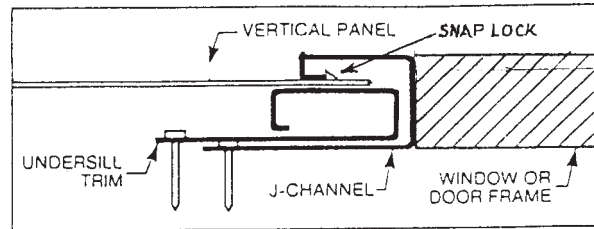

FIG. 30 Installation With Panel Cut on Flat Surface
10.8.2 If the panel is cut on the flat surface, install undersill trim, or a 7/16-in. (11.1-mm) thick furring strip, into the J-channel using fasteners that do not penetrate the leg of the J-channel. Punch snap locks along the edge of the panel at 6-in. (152-mm) intervals, snap it into the space below the return of the J-channel, locking the other side into the last panel. (See Fig. 30.)